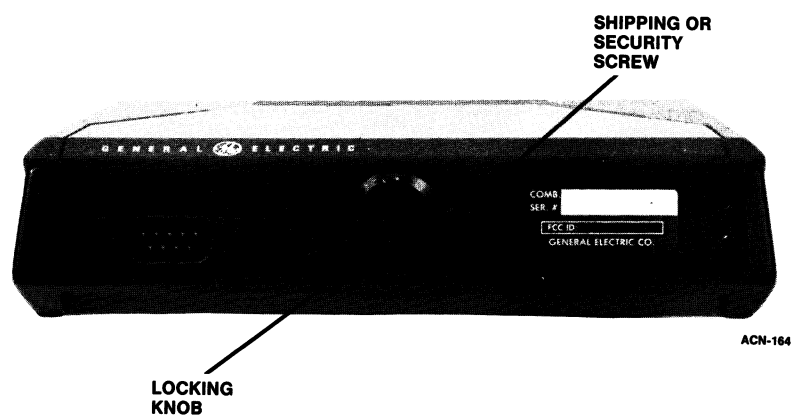

FIGURE 1 - REMOVAL OF THE BOTTOM COVER
1. Remove the M3.5-0.6 x 8 TORX screw (#15 drive) that secures the locking latch in place (refer to Figure 1).